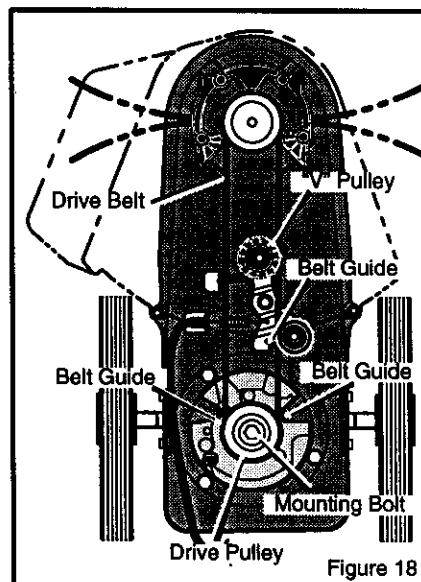

Figure 18
4. Raise the front of the trimmer housing and remove the drive belt. On some models, it is necessary to loosen the mounting bolt for the drive pulley to remove the drive belt (see Figure 18). Do not bend the belt guides.
6. Check the routing of the drive belt. Make sure the drive belt is inside of all belt guides shown in Figure 18.